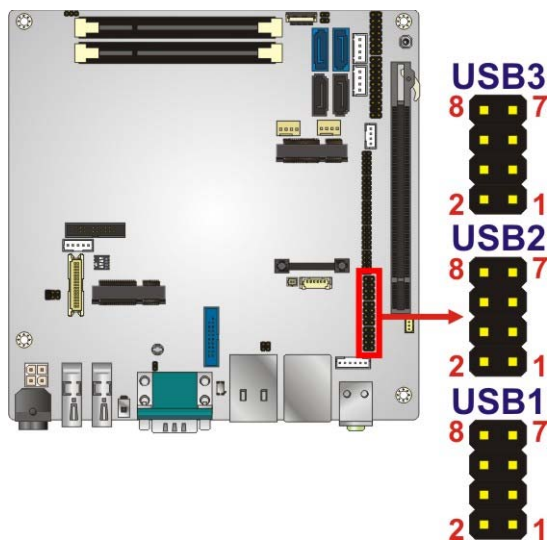

Figure 3-31: USB 2.0 Connector Locations
- CN Location:** See **Figure 3-31**